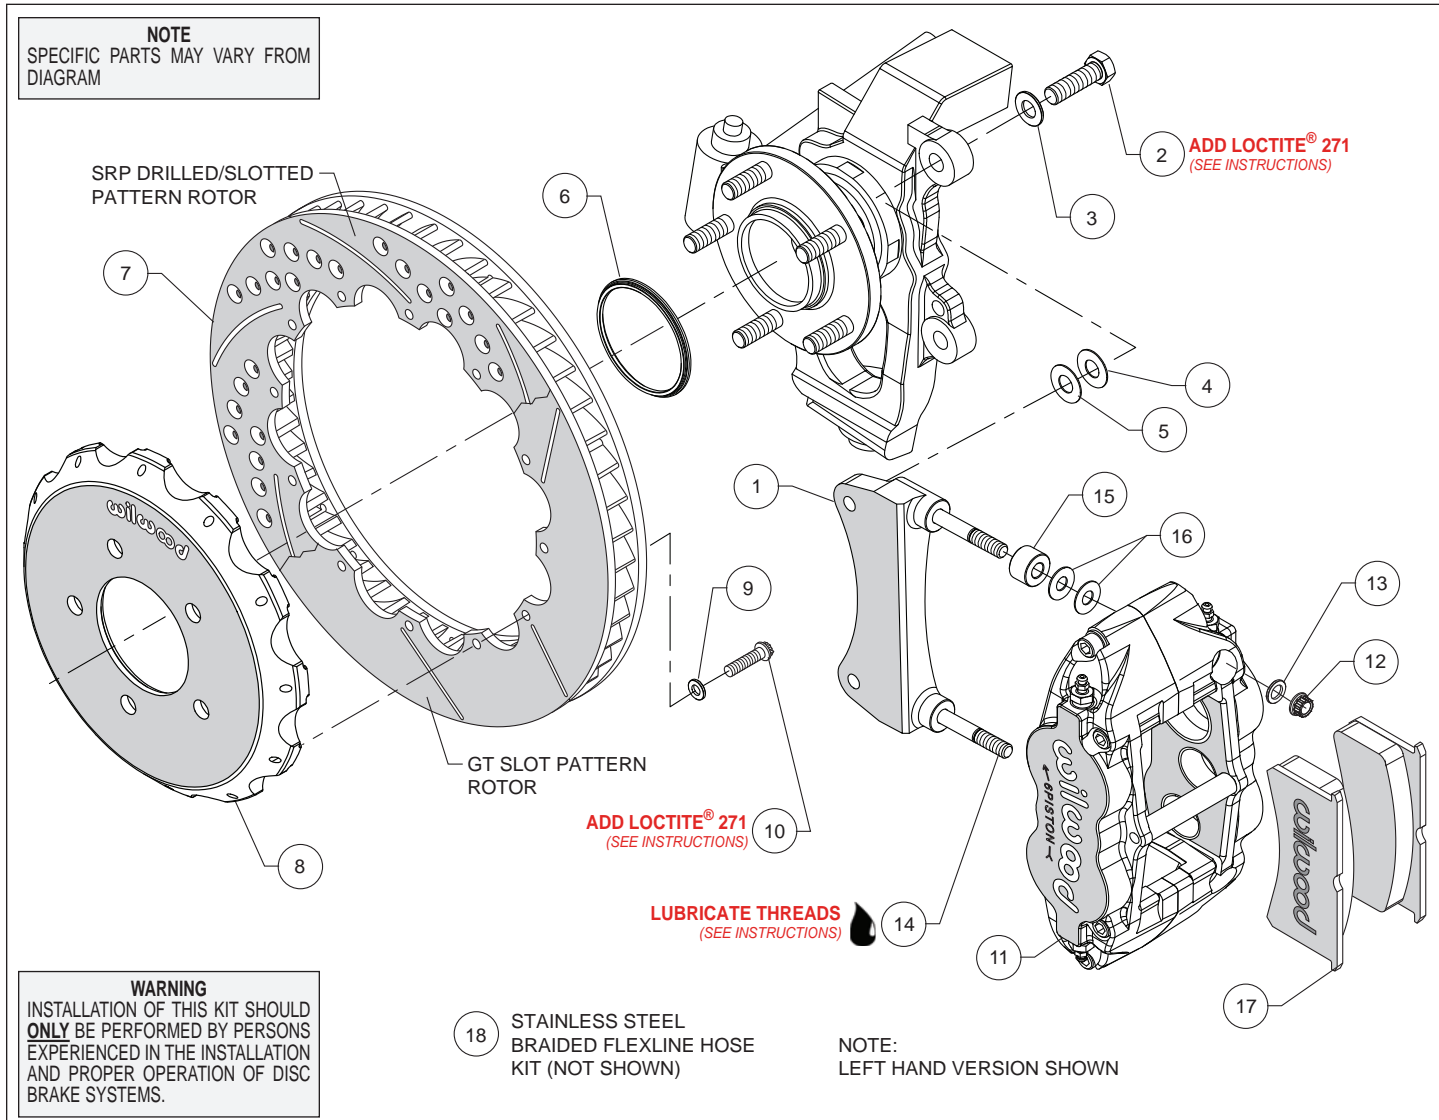
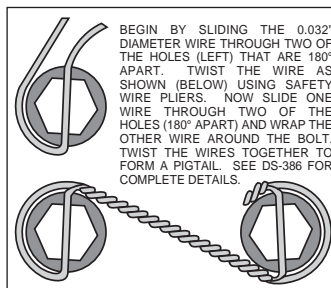

Figure 1. Typical Installation Configuration
Figure 3. Safety Wire Diagram
**Assembly Instructions** (numbers in parenthesis refer to the parts list and Figure 1 on the preceding pages):
- The caliper mount bracket (1) should initially be installed with clean, dry threads on the mounting bolts. Orient the bracket as shown in Figure 1 and Photo 1, and install using washers (3) and bolts (2). Initially place one .033 thick shim (4) and one .015 thick shim (5) on each bolt between the bracket and upright, Figure 1. Temporarily tighten the mounting bolts. **NOTE:** *The bracket must fit squarely against the mount bosses on the upright.* Inspect for interference from casting irregularities, machining ridges, burrs, etc. Later, after the caliper alignment has been checked, the mount bolts will be secured using red *Loctite*® 271.
- Orient the rotor (7) and the hat (8) as shown in Figure 1 and Photo 2. Attach rotor to hat using bolts (10) and washers (9). Using an alternating sequence, apply red *Loctite*® 271 to the threads, and torque to 155 **in-lbs**. For an added measure of security, the bolts may be safety wired using standard 0.032 inch diameter stainless steel safety wire as shown in Figure 3. Please refer to Wilwood's data sheet DS-386 (available at [www.wilwood.com/Pdf/DataSheets/ds386.pdf](http://www.wilwood.com/Pdf/DataSheets/ds386.pdf)) for complete safety wire installation instructions.
- Slide the rotor registration adapter (6) onto the axle register on the axle hub with the smaller O.D. facing outward, Photo 3. Slide the hat/rotor assembly onto the axle hub. **NOTE:** *The hat must fit flush against the axle hub flange or excessive rotor run out may result.* Install three lug nuts (finger tight) to keep the hat/rotor assembly in place while continuing with the installation.
- NOTE:** *This kit contains distinct right and left hand calipers that must be mounted in a specific direction, as described below.* Lubricate the caliper mounting studs (14) with lightweight oil. Initially place two .035" thick shims (16) and one spacer (15) on each stud as shown in Figure 1 and Photo 4. Mount the caliper (11) onto the bracket (1) using lock nuts (12) and washers (13), Figure 1. Ensure that the caliper is mounted so that the largest pistons are at the rotor exit end of the caliper, in relation to the direction of rotor rotation. Temporarily tighten the lock nuts and view the rotor through the top opening of the caliper. The rotor should be centered in the caliper, Photo 5. If not, adjust by adding or subtracting shims (4 and/or 5) between the bracket and the upright. Always use the same amount of shims on each of the two mounting bolts. Once the caliper alignment is correct, remove the bracket mounting bolts (2) one at a time, apply red *Loctite*® 271 to the threads, and torque to 60 ft-lb.